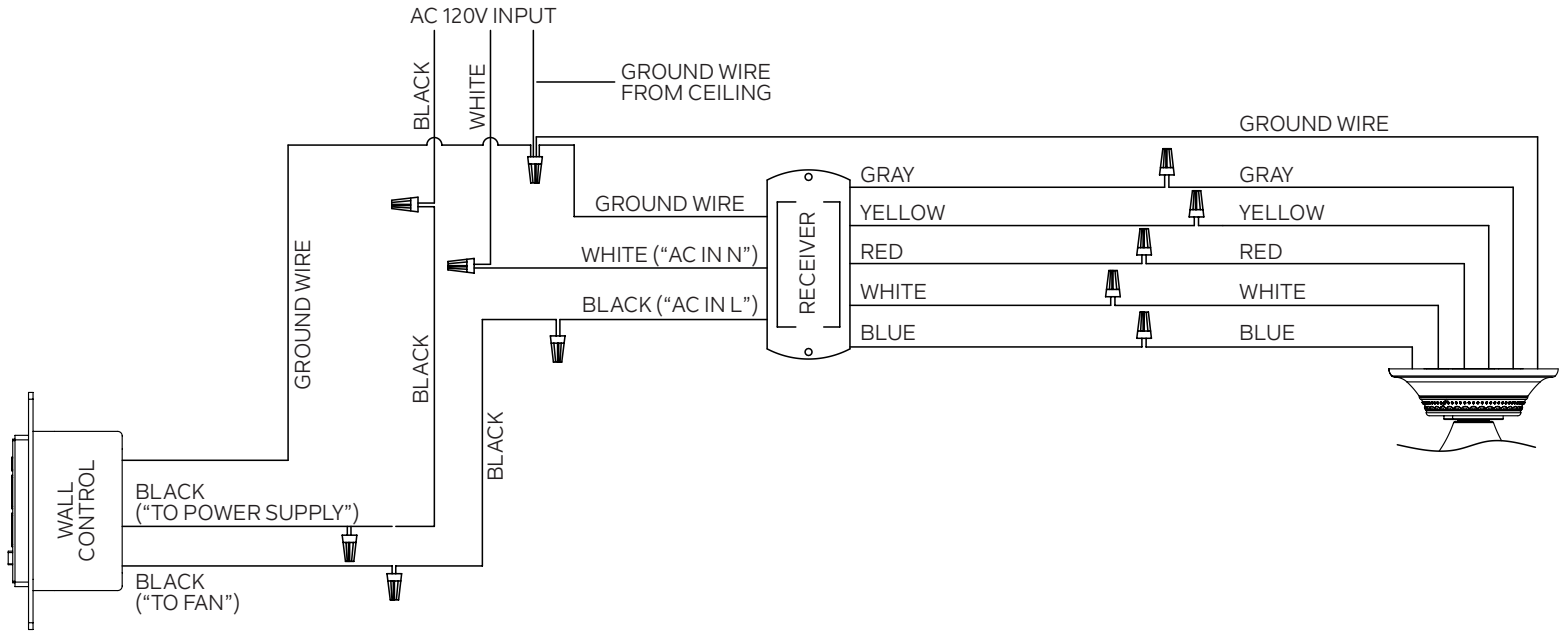

Fig. 14
**Step 2.** Connect wires using the connectors as shown in WIRE DIAGRAM. (Fig.14)